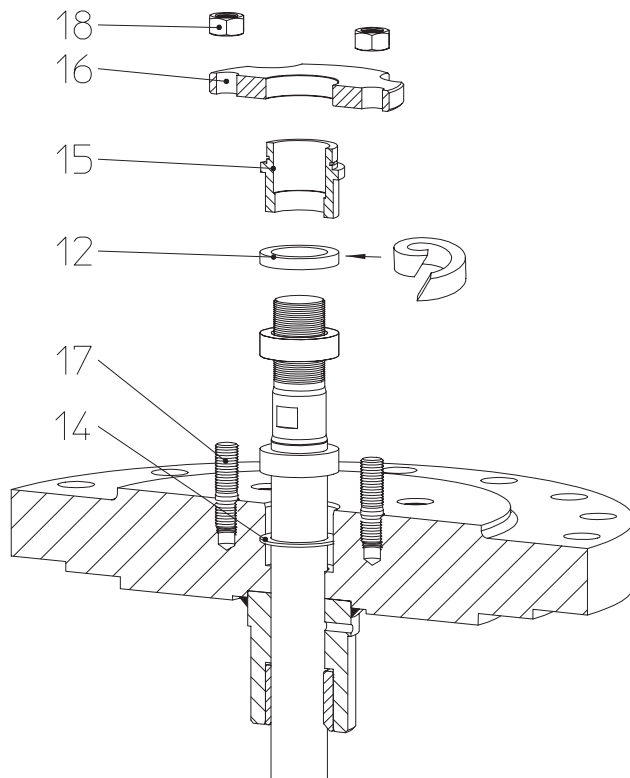
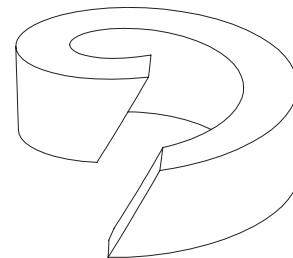

Fig. 7
Fig. 8: split packing ring
- Insert the new packing ring as shown in Fig. 7 - Fig. 8
If a split packing ring is used, cut with a chamfer as shown in Fig. 8.